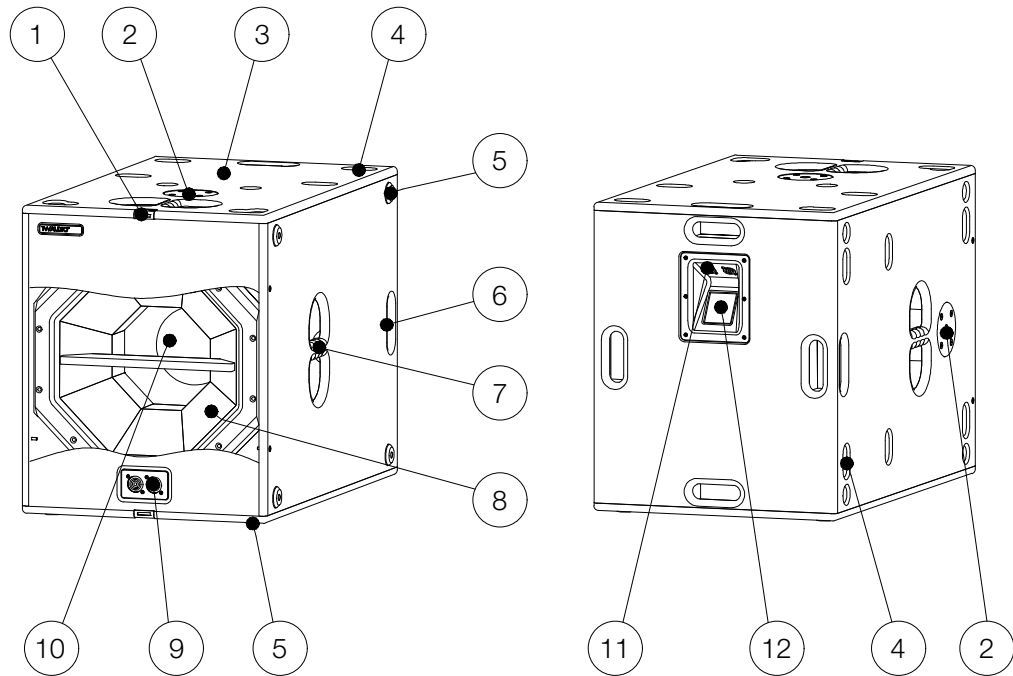

Figure 2.1 - Overview
Make sure that the maximum load of 50kg / 110lbs for the M20 pole mount flange is not exceeded! Figure 2.1 – Item 2.
The M20 pole mount flange (figure 2.1- item 2) is not designed for side forces once mounted – do not apply any pressure from the sides.
Please note that only centered loads are allowed to be placed on the M20 pole mount flange – Figure 2.1 – Item 2.
Make sure that the existing millings for rubberfeets (Pos.4 - figure 2.1) are used for a safe stacking of the loudspeakers.